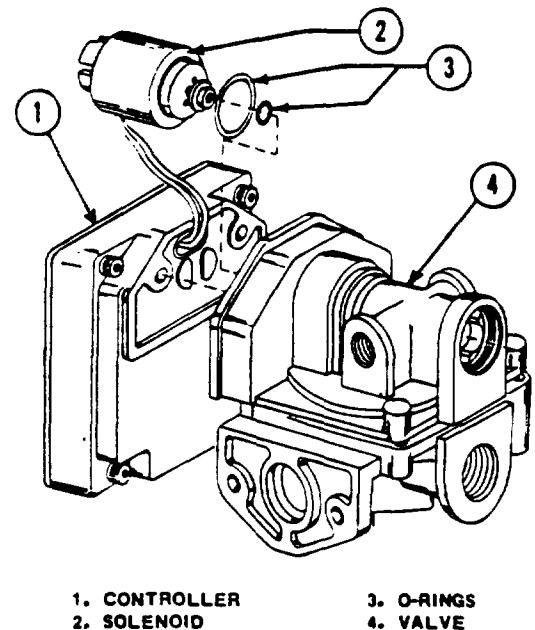

FIGURE 5
c. Install slack adjuster retainer bracket on brake assembly using existing spider mounting bolts as shown in Figure 4. Do not tighten the bolts. Align clevis pin hole in slack adjuster with push rod clevis by turning worm adjusting nut as shown in Figure 5 and install clevis pin.